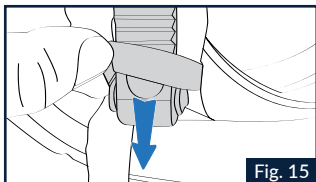

Fig. 15
1.1 Open the chin strap (see specific instructions) and remove the chin strap band from the elastic loop on the cheek pad front strap (Fig.15).
6.5 Insert the chin strap band into the elastic loop on the cheek pad strap (Fig. 15).